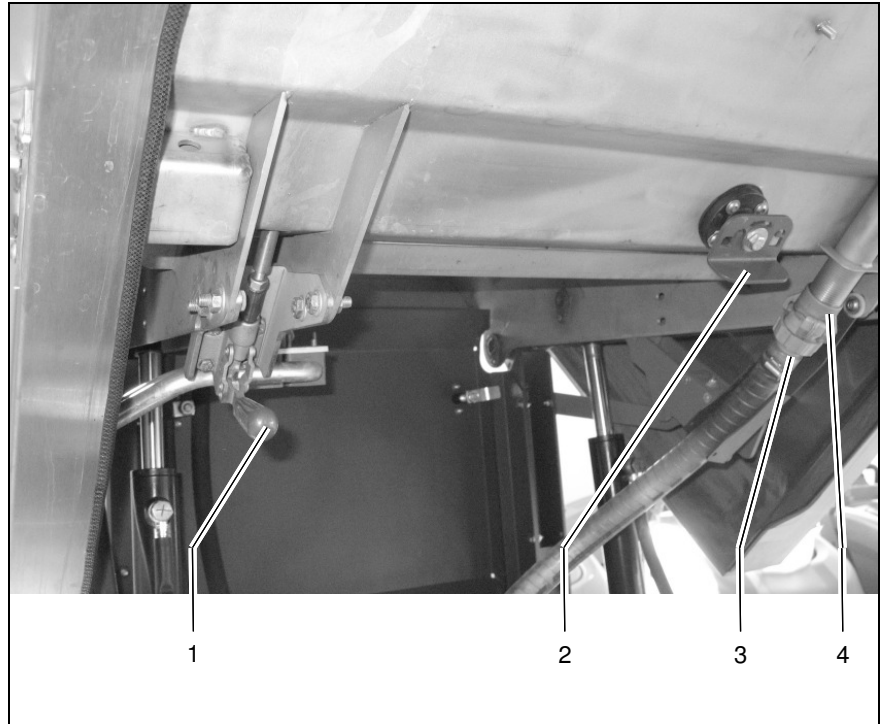

Fig.21
- Loosen hose fitting (Fig. 21/3) and remove the bayonet fitting (Fig. 21/4).
- Unlock the floor cover using the lever (Fig. 21/2) and open using the lever (Fig. 21/1).